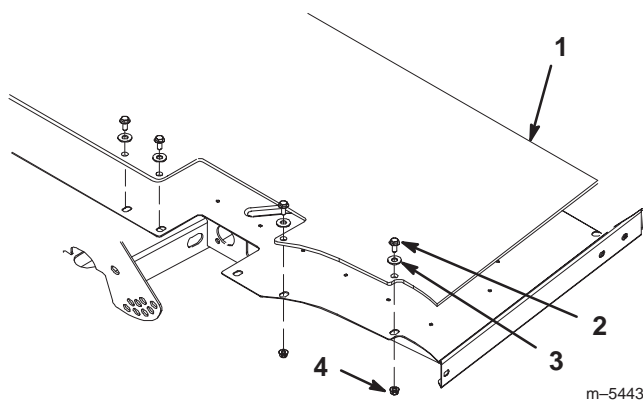

Figure 1
3. Attach the floor mat to the floor of the vehicle with the existing 6 flange bolts, new washers, and existing locknuts (Fig. 1). Torque the bolts to 175–225 in.-lb. (20–25 N·m).